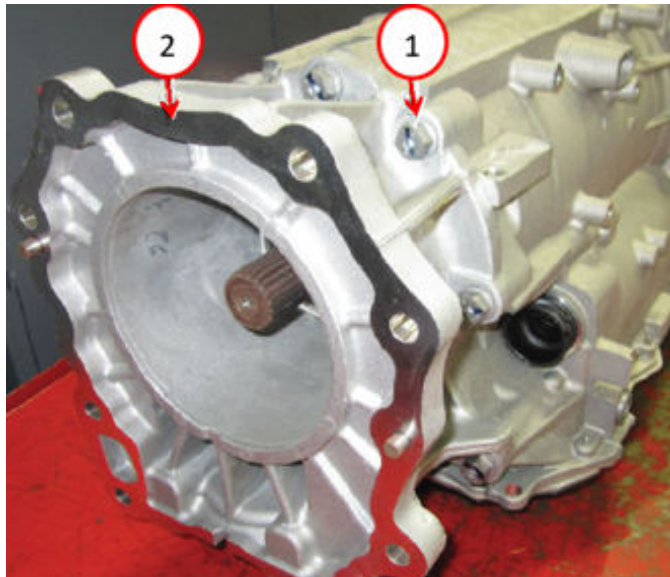

Fig. 3
4. Remove the transmission output shaft seal Fig. 3.